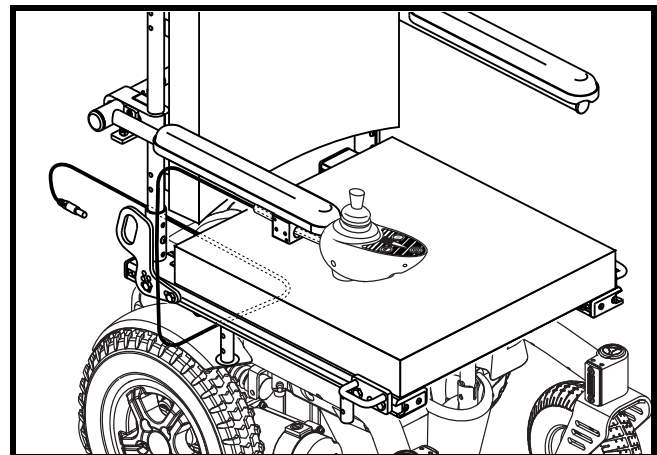

Figure 13. Controller Harness Routing - Synergy Seat
6. Route the controller harness to the front or back of the power chair to the controller connector, ensuring that the harness cannot be pinched in the seat hinge. See figure 13.